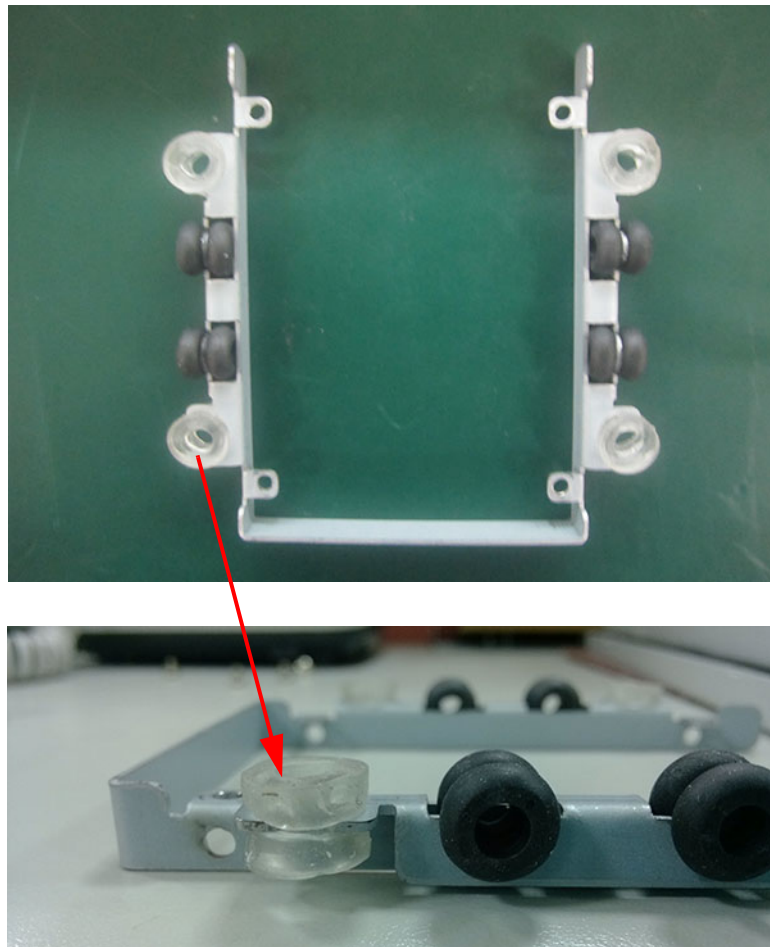

Figure 2.20
3. Position the 8 washers as shown in Fig 2.20. Please make sure the transparent washer U card is fixed in the U iron bracket, or HDD may be damaged easily.